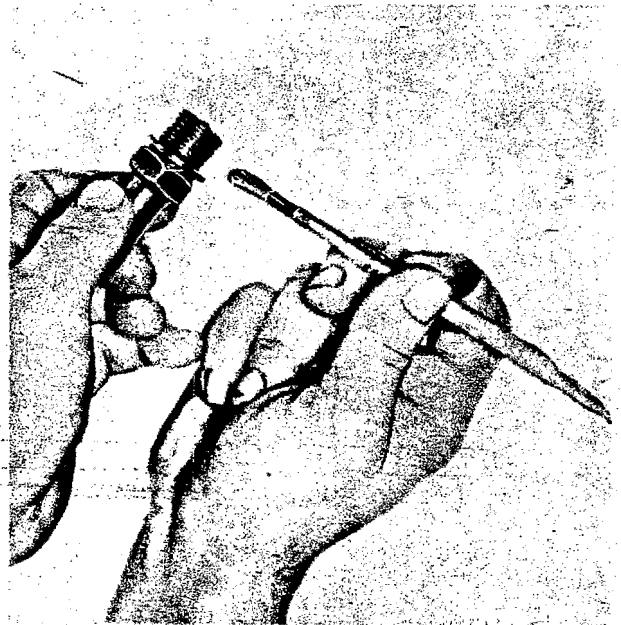

Figure 4-23. Applying Compound to Sparkplug
c. Apply a light coating of graphite base anti-seize thread compound (Specification MIL-T-5544) sparingly as a thin film on the shell threads, using a small brush [Figure 4-23].